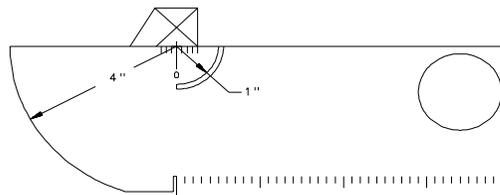

Figure 4.18: Calibrate for Distance
- a. Couple the probe to the block so that the BIP is directly over the “0” mark on the ASTM test block (or the Air Force block). **Do not move the transducer from this point during this step.** The objective in this step is to position the echoes over the appropriate graticules on the screen. In this example, we will use a “Type I” block. Therefore, we will be looking for echoes at 4" (100mm) and 9" (225mm) (see Figure 4.18). If you are using Type II test block, the procedure is the same, however, the echoes will occur at 2" (50mm) and 4" (100mm).